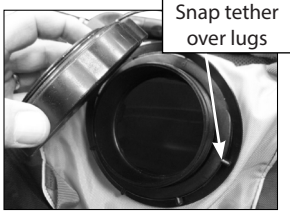

Figure 9.
9. Snap large diameter tether loop over the lugs on the filler neck nut, insert filter basket and install cap by rotating clockwise. (See Figure 9.)